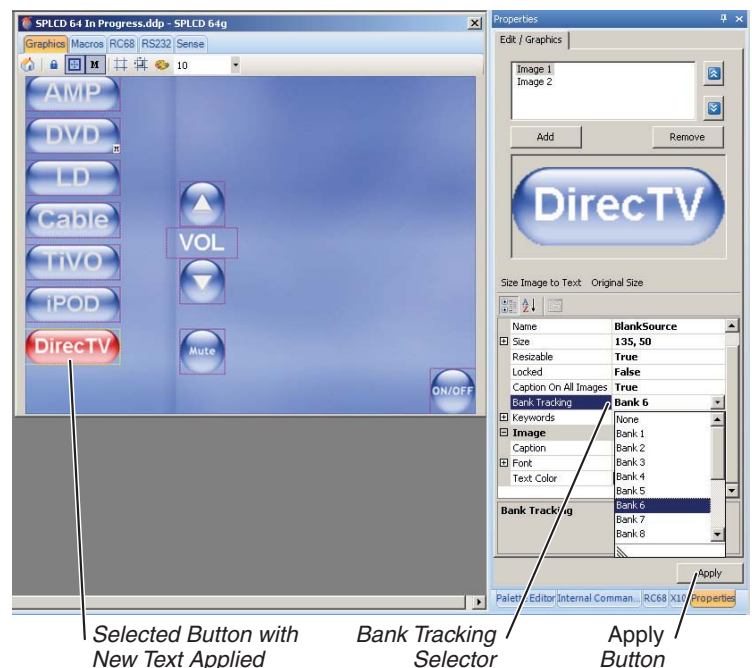

Figure 19: New text applied to selected Source button; Bank Tracking selector
3. When you're finished formatting the text, click on the *Apply* button. The text will be applied to the selected button (see Figure 19).